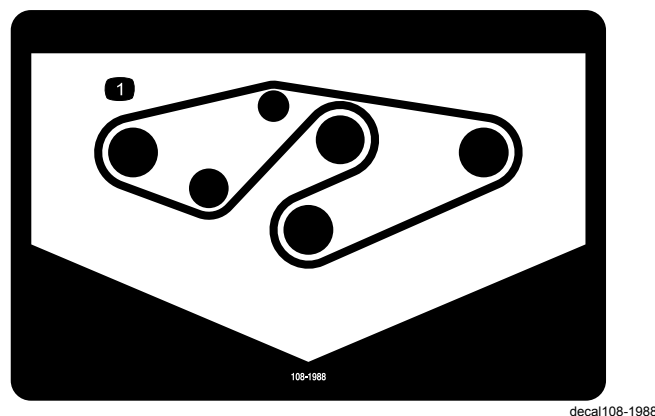

Figure 35
4. Route the new belt around the spindle pulleys and idler pulley assembly as shown in Figure 35.